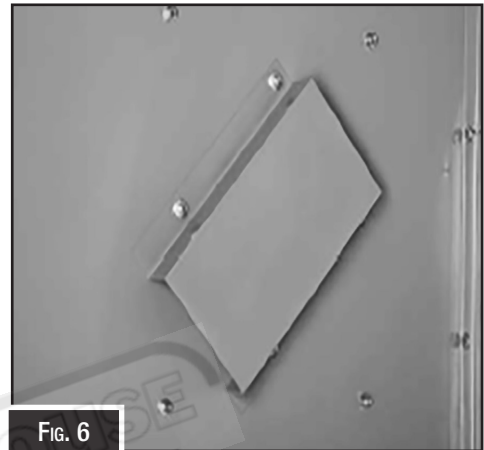

Fig. 6
2. Remove the interior deflection plate. (Fig. 6)